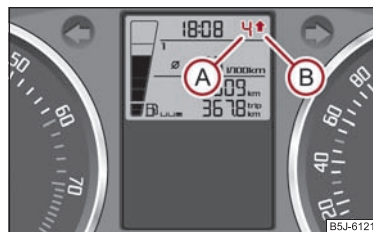

Fig. 17 Shift recommendation for changing gears
An information for the engaged gear (A) ⇒ fig. 17 is shown in the display of the instrument cluster. ►